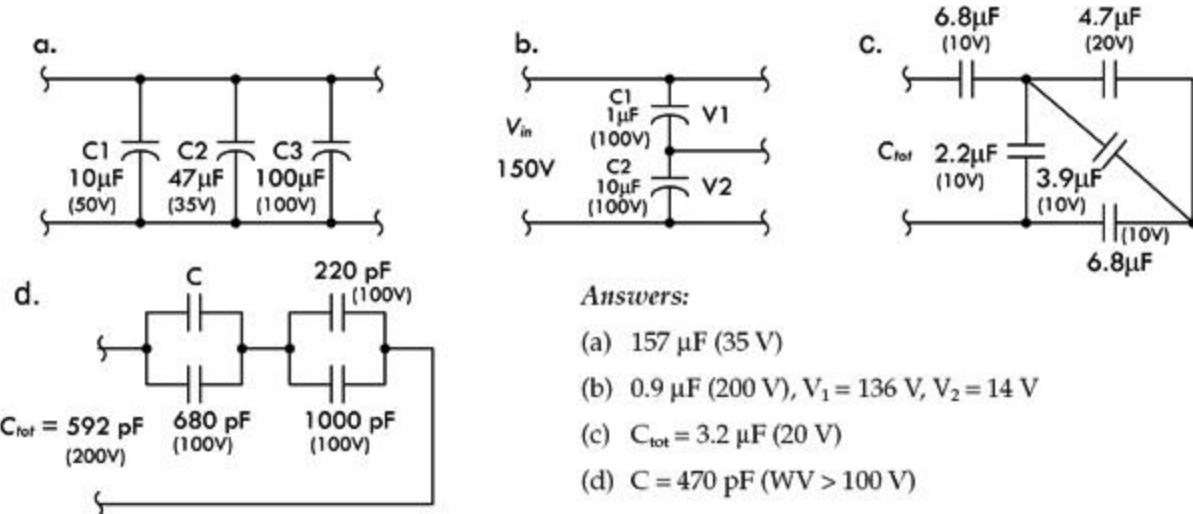

FIGURE 2.105
Example: (a) Find the total capacitance and maximum working voltage (WV) for the capacitor in the parallel network. (b) Find the total capacitance, WV, V_1 , and V_2 . (c) Find the total capacitance and WV for the network of capacitors. (d) Find the value of C that gives a total capacitance of 592 pF with a total WV of 200 V. Individual capacitor WV values are in parentheses. Refer to Fig. 2.105.